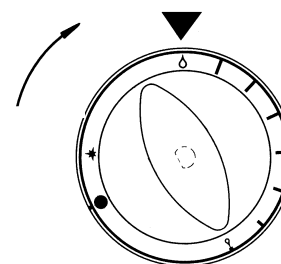

FIG. 4
- **Changing the oven burner nozzle 7.7 kW** (Fig. 4):
- **Changing the oven burner nozzle 12 kW** (Fig. 4):
To turn the main burner off turn the knob counter clockwise round to the ♢ position without forcing the knob at all (fig. 4), now press the knob right down and turn it into the "PILOT" position. To turn off completely press again and turn it until it stops.